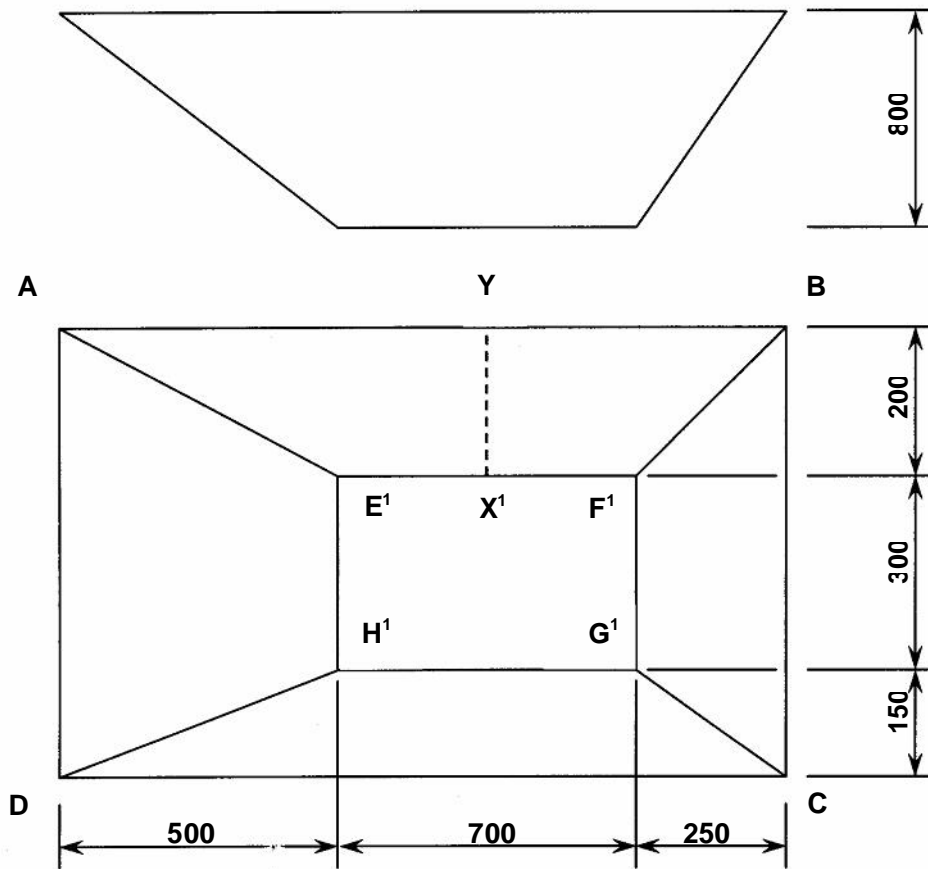

Figure 4
5.1 **Figure 4** shows the front and top views of a hopper.